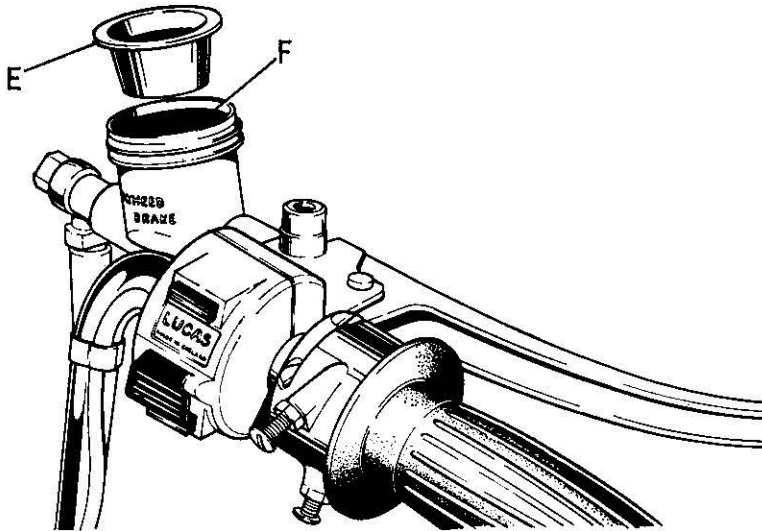
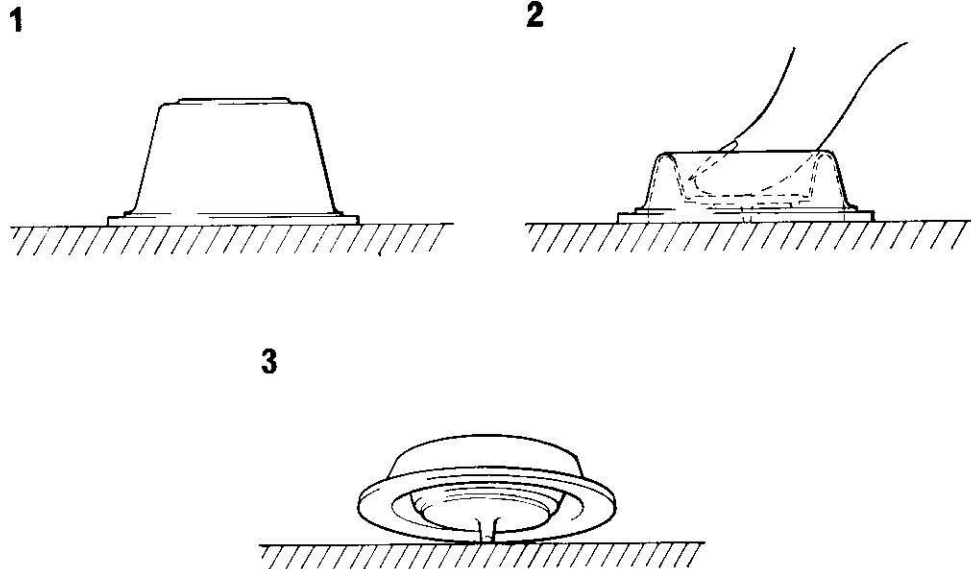

Fig. F25. Showing the brake reservoir fluid level and cap.
Fig. F27. Folded condition of rubber diaphragm
The brake fluid level in the master cylinder reservoir should be as shown in Fig. F25. (F). There is a mark running around the inside periphery of the reservoir about $\frac{1}{4}$ " (6.35 mm) from the top. During the life of the brake pads it will not be necessary
immersed in at least $\frac{1}{2}$ in. (12.7 mm) of brake fluid. Remove the screwed cap from the master cylinder reservoir and take out the rubber diaphragm “E” Fig. F25. Now slacken the bleed nipple $\frac{1}{2}$ to $\frac{3}{4}$ of a turn, (with the bleed pipe still attached).
Remember to maintain the level of hydraulic fluid in the master cylinder during the entire operation. The correct level for the fluid is shown in Fig. F25 at "F". This will be the correct level when the brake pads are NEW. When replacing the rubber diaphragm (Fig. F25 "E") it will be easier to replace the cap with the diaphragm in a folded condition. See Fig. F27.
If at any time it has been necessary to replenish the system with hydraulic fluid during the life of one set of brake pads, remember that when new pads are fitted the fluid level will rise appreciably in the cylinder and may spill onto the gas tank. Therefore the level will have to be corrected to that shown in Fig. F25 (Hydraulic fluid instantaneously corrodes cellulose paintwork and great care should be exercised when handling this fluid).